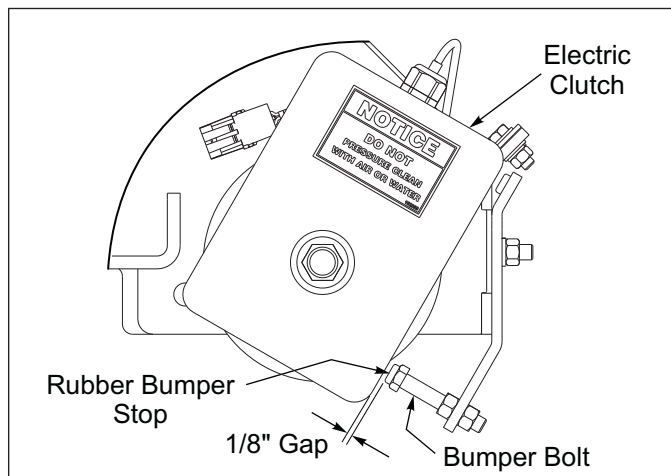

Figure 2-18: Clutch Detail
1. Verify that the Electric Clutch has 1/8" clearance between the Clutch Housing and Rubber Bumper Stop. Improper clearance may prevent the Clutch from engaging or disengaging. **See Figure 2-18.**